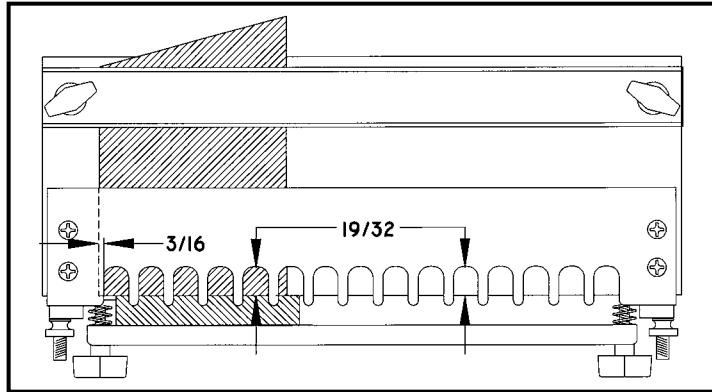

Fig. 8
3. Place the  $\frac{1}{2}$ " half-blind dovetail templet on top of drawer front and adjust locknuts, Item 7, Fig. 1, so there is  $\frac{19}{32}$ " from back of templet slots to edge of drawer front at both ends of templet (see Fig. 8). Tighten knurled nuts, Item 6, Fig. 1, to secure templet in place.
4. Loosen top clamp bar and position drawer front so that the left edge is  $\frac{3}{16}$ " (see Fig. 8) past the left edge of the first templet slot and clamp in place.